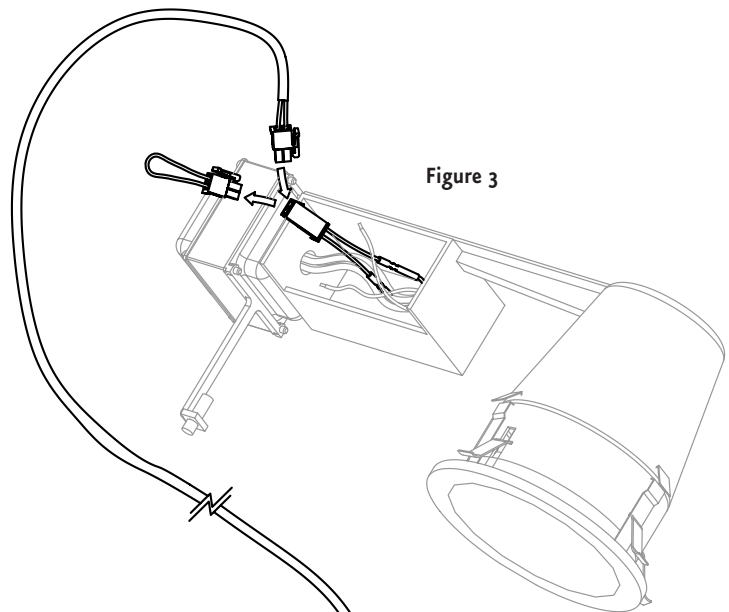

Figure 3
6. Remove the red jumper wire shown in figure 3 and discard. Connect the wire from the steam generator to the connector where the jumper was.